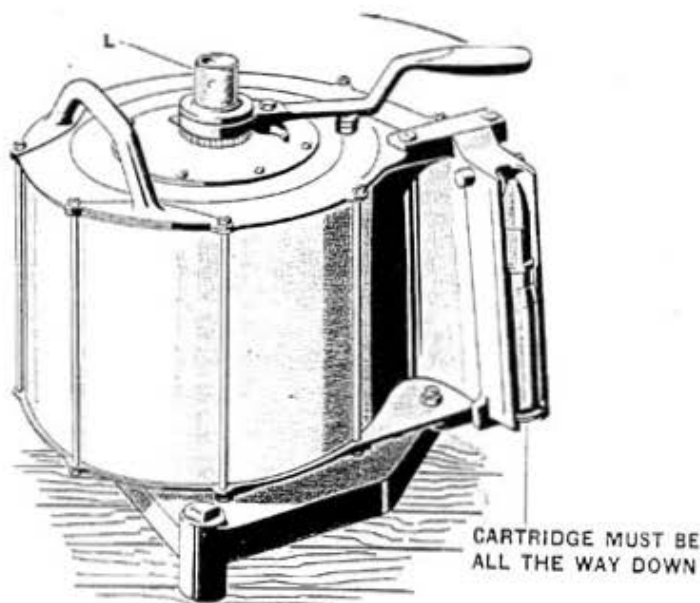

Figure 58—Tensioning the Magazine Spring
NOTE—It is essential that all cartridges be pushed all the way down to the bottom of the magazine mouth so that their bases are in alignment and firmly seated on the magazine rear plate, as shown in Figure 58. This is important because the breech block moves very rapidly and the magazine must feed the cartridge to it properly, so that the face piece can readily pick up the cartridge.
9. When the loaded magazine is to be used immediately, the spring is tensioned completely in the loading frame. Place the loading lever on the spring axis, as shown in Figure 58. Revolve the loading lever counter-clockwise. Continue revolving the loading lever until a stop becomes distinctly noticeable. This indicates that the clock spring is completely tensioned. Remove the loading lever. Remove the loaded magazine from the loading frame and install on a gun.
NOTE—Hold the coupling sleeve (L), Figure 58, with the fingers to prevent its turning when tensioning the spring on a partly loaded magazine. If it is permitted to turn, the cartridge feeder will be backed away from the cartridges and a jam may result.
NOTE—A slight tensioning with the loading lever in the position shown in Figure 58 is sufficient. If the magazine is fully loaded or only partly filled, this slight initial tensioning is necessary to prevent a jam in the magazine.